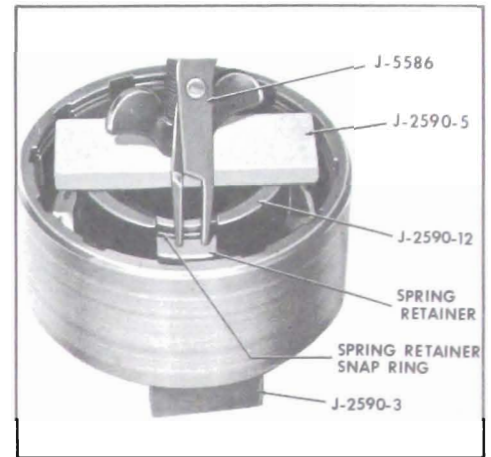

Figure 5-215
7. Using Tools J-2590-3, J-2590-5 and J-2590-12 compress spring retainer. Remove snap ring. Then remove Tool J-2590 and component parts, being careful that spring retainer does not catch in snap ring groove. See Figure 5-215.